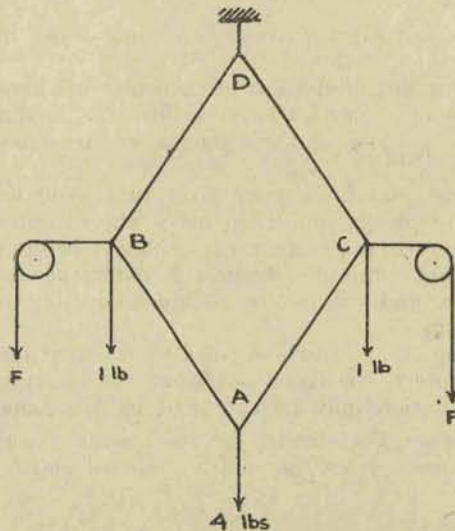

Fig. 2.
2. An experimental model of a Porter Governor is shown to scale and the system of forces acting on it is indicated in Fig. 2. Find the tension in the strings BD, DC, AC and AB, and the force F in the horizontal strings pulling B and C apart.